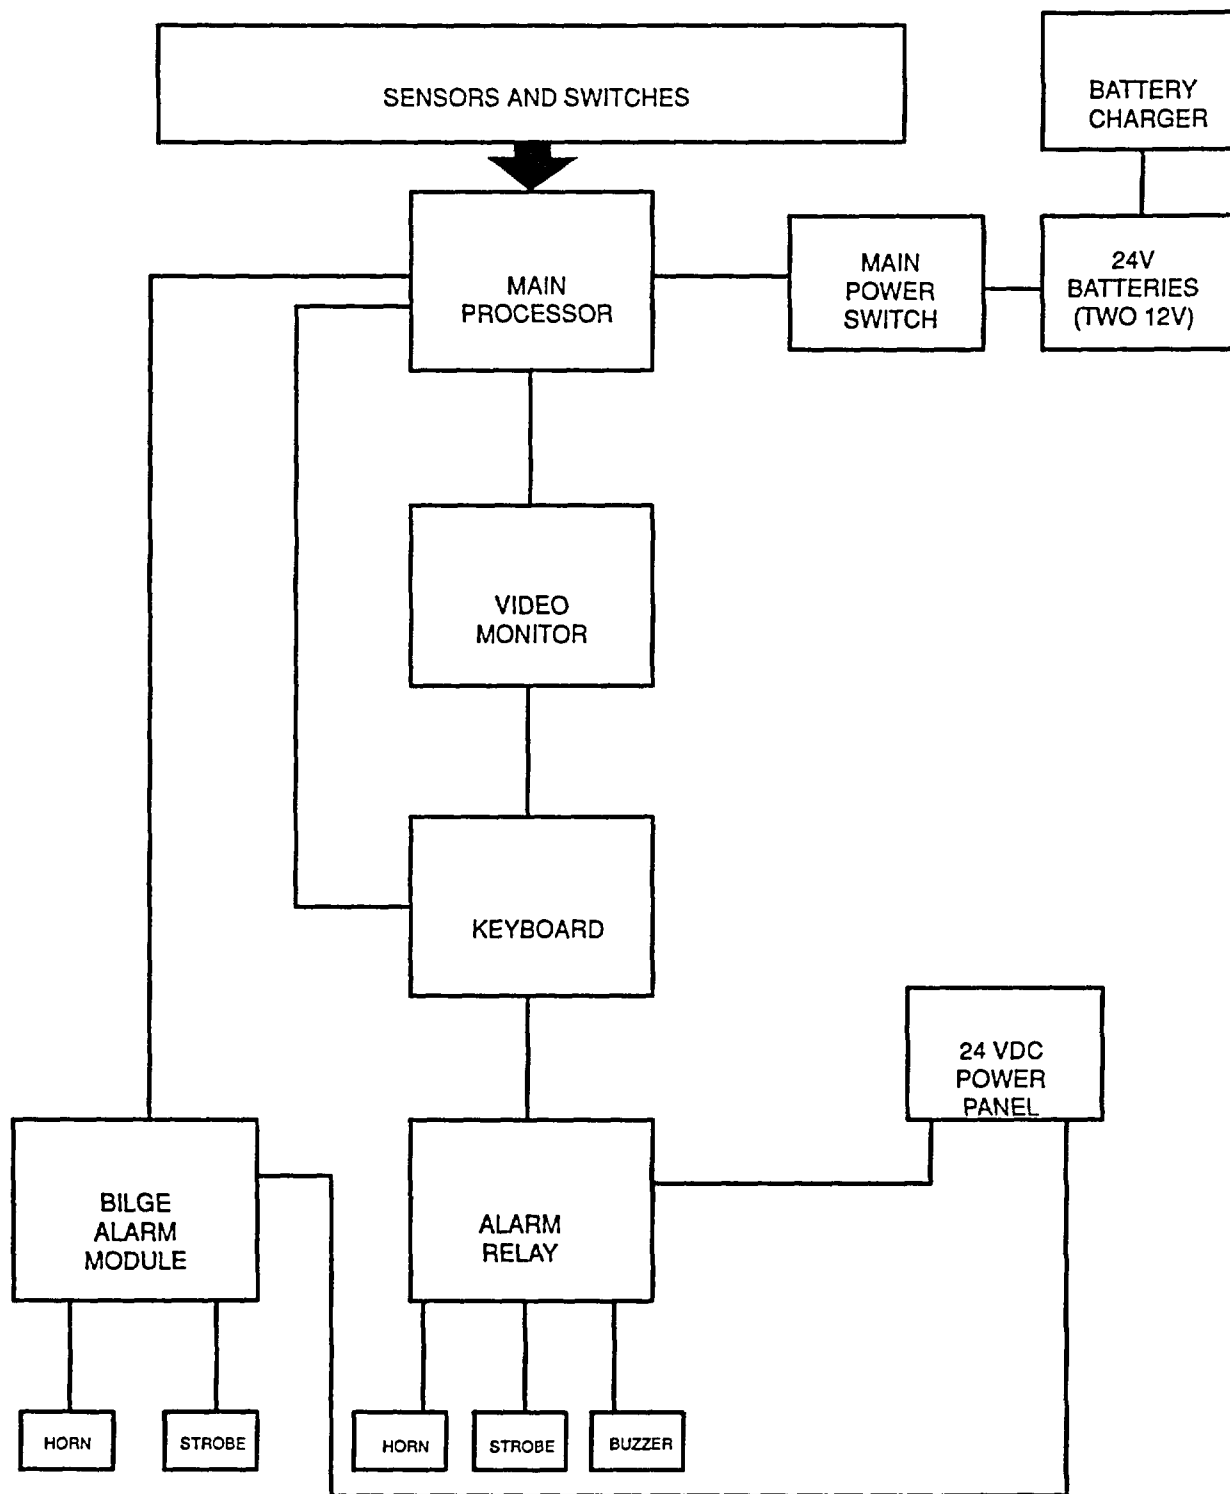
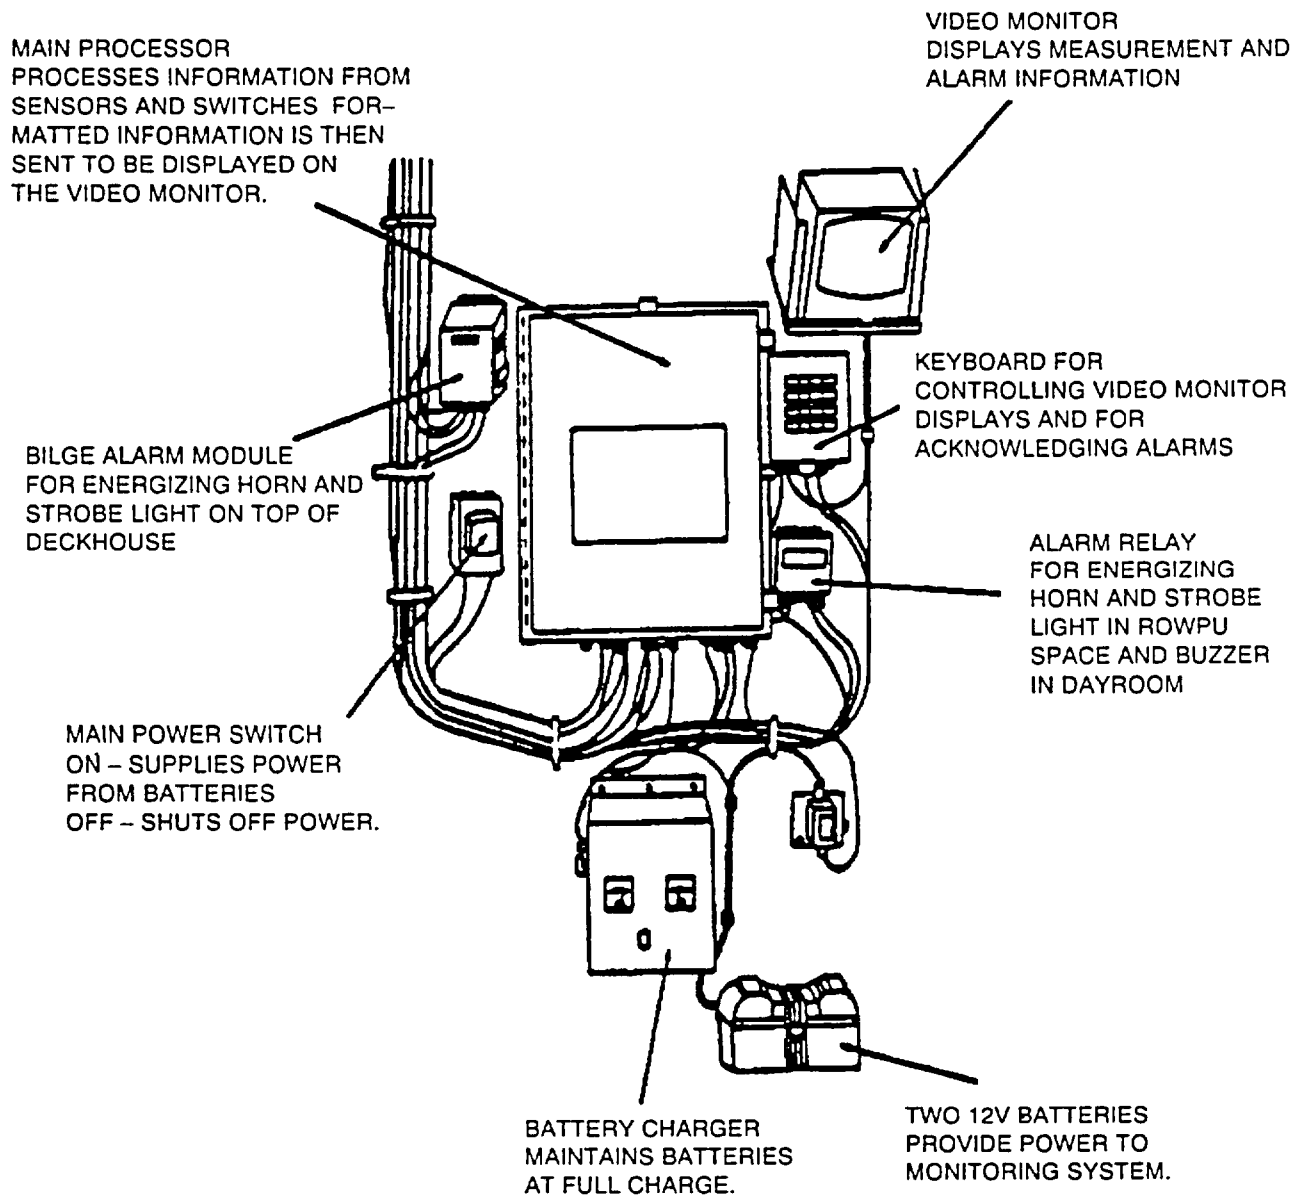

Figure 8-1. Equipment Monitoring System Block Diagram
Figure 8-2. Equipment Monitoring System Arrangement
8-2 Description. EMS main components are the alarm/casualty monitoring equipment, two 12-volt dry cell batteries, a battery charger, two strobe lights, two horns, and a buzzer. Additional information about EMS major components is in table 8-1. The alarm/casualty monitoring equipment consists of various sensors and switches, a main processor, keyboard, video monitor, alarm relay module, main power switch, and bilge alarm module. A block diagram of EMS components is shown in Figure 8-1. Figure 8-2 shows the arrangement of these components on the barge. Equipment specifications, maintenance information, and manufacturer's service manuals are contained in TM 55-1930-209-14&P-11.
- b. Push main power switch ON (Figure 8-2).